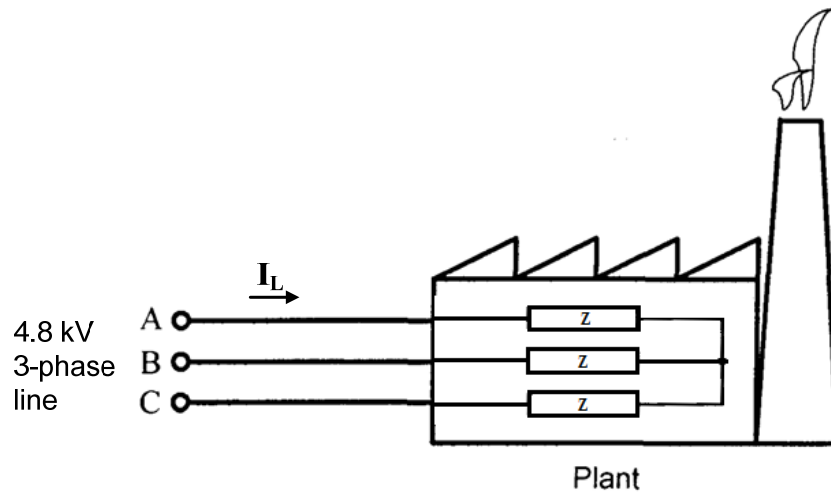

Figure 2.1
2. (a) A manufacturing plant is supplied by a 3-phase 4.8 kV line voltage. The plant has a power factor of 86 percent lagging and it draws 1200 kVA of apparent power. Assume that the plant is wye connected with three balanced impedances,  $Z$  as shown in Figure 2.1. Calculate the following: